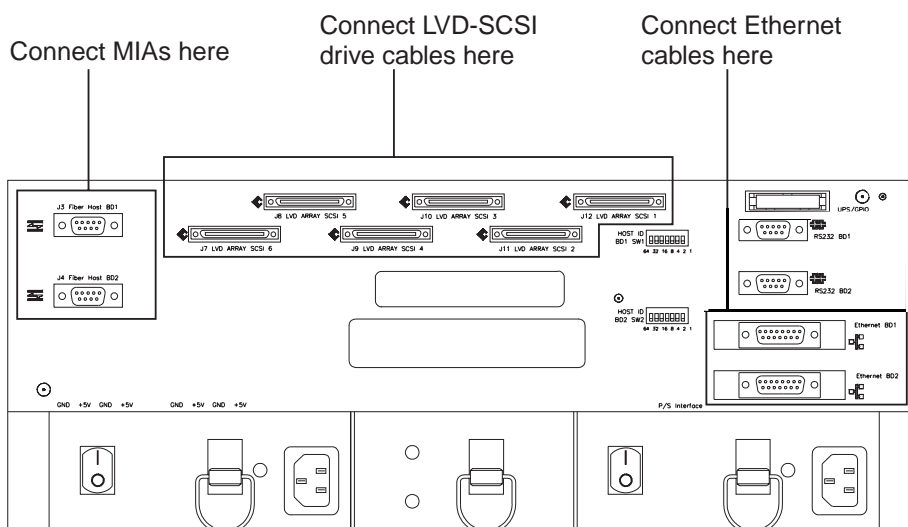

Figure 33. Interface Connections on a Rackmount controller unit
- l. Install a MIA for each controller purchased (see Figure 33)
- n. Connect the LVD-SCSI drive cables (Figure 33).
- o. If applicable, attach secondary interface cables (Figure 33 on page 65).